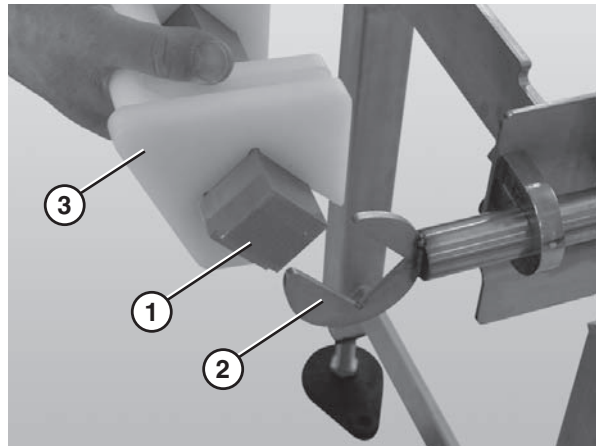

Figure 68
4. After all tracking pucks (**Figure 68, item 3**) are installed, slide the nose bar drive or transfer post (**Figure 68, item 1**) into of the nose bar drive weldment or idler hands (**Figure 68, item 2**).